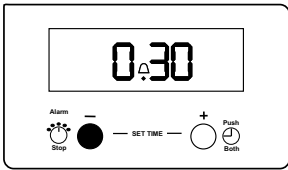

Fig. 9.
Press and hold button (1) and the display will countdown in one minute intervals. See Fig 9.